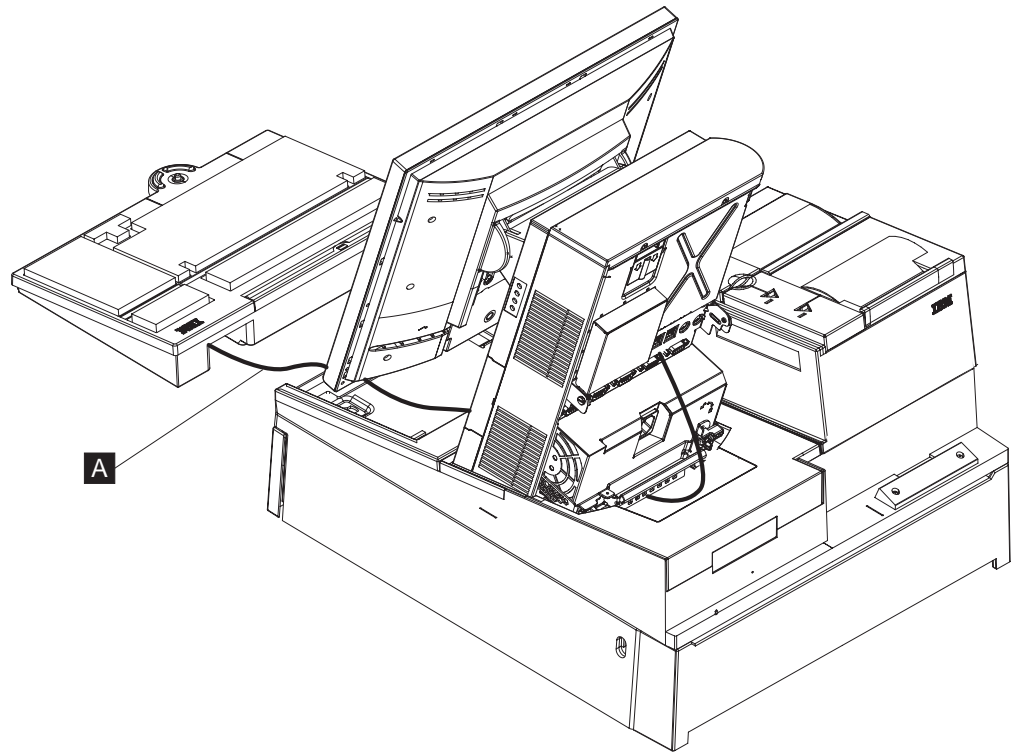

Figure 70. Installing the keyboard onto the integration tray
6. The front filler panel has to be installed before the keyboard is installed. Keyboard must be to the right with the filler panel on the left. To install the keyboard, perform the following steps. See Figure 70 for locations: